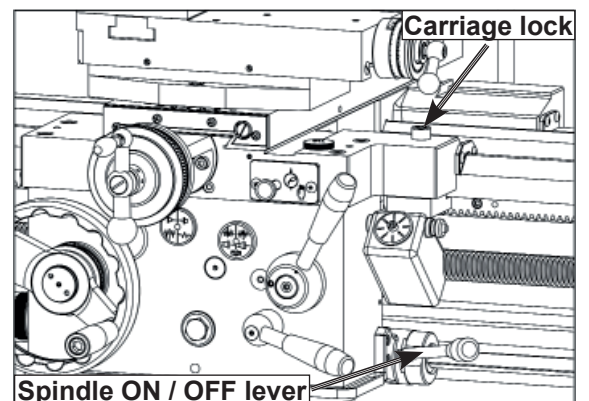

Fig. 19 Carriage lock & spindle ON/OFF lever
10. Using a 10 mm hex wrench, loosen the carriage lock (figure 19) so the carriage is free to slide.
11. Move the spindle ON / OFF lever to the OFF position as shown in figure 19.